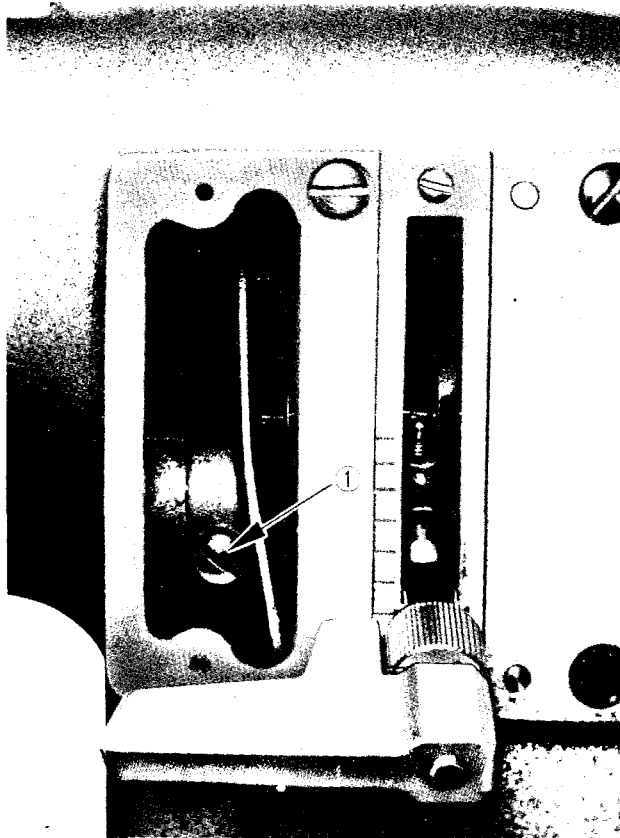

Fig. 16
1. Remove the cover (G, Fig. 2) and loosen the screw (1, Fig. 16) slightly.